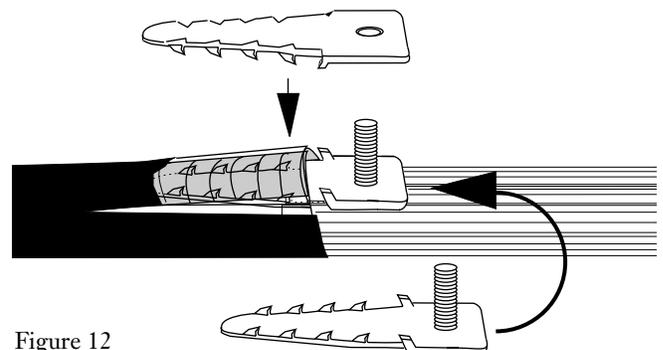

Figure 12
- Slide the base plate under the armor. Be careful not to damage the buffer tubes. Place the top plate over the base plate and tighten down with its lock nut (Figure 12). A few light taps on the top plate may help seat the teeth of the grounding clamp.